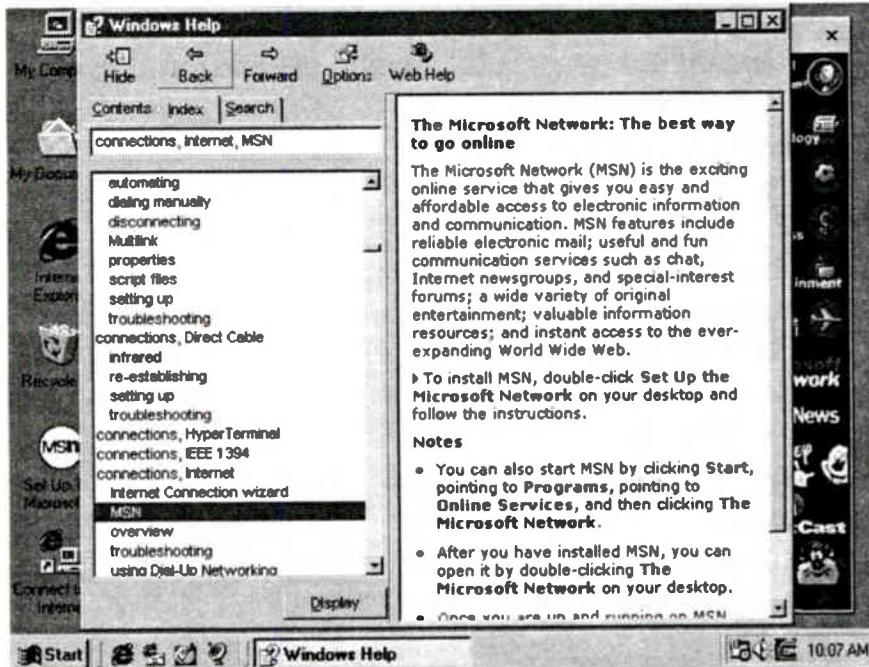

Figure 1.
Step 1. Open up the Help option from the Start menu. Click on the Index tab and display the topics for "connections, Internet." Within the topics listed, choose "The Microsoft Network: The best way to go online." Look at Figure 1 to make sure you're accessing the correct information in Help.